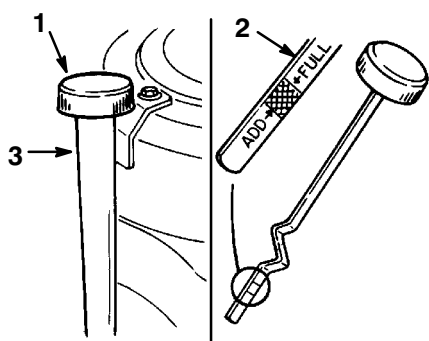

Figure 20
3. Clean around the oil dipstick (Fig. 20) so dirt cannot fall into the filler hole and damage the engine.
4. Unscrew the oil dipstick and wipe the metal end clean (Fig. 20).
5. Slide the oil dipstick fully into the filler tube, do not thread onto tube (Fig. 20). Pull the dipstick out and look at the metal end. If oil level is low, slowly pour only enough oil into the filler tube to raise the level to the "FULL" mark.
7. Slowly pour approximately 80% of the specified amount of oil into the filler tube (Fig. 20). Now check the oil level; refer to Checking Oil Level, page 23. Slowly add additional oil to bring to "FULL" mark on dipstick.